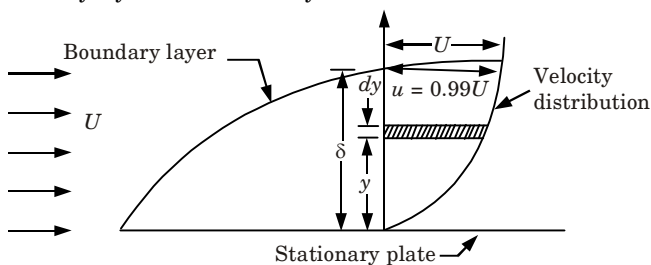

Fig. 3.22.1. Displacement thickness.
2. Let fluid of density ρ flow past a stationary plate with velocity U as shown in Fig. 3.22.1.